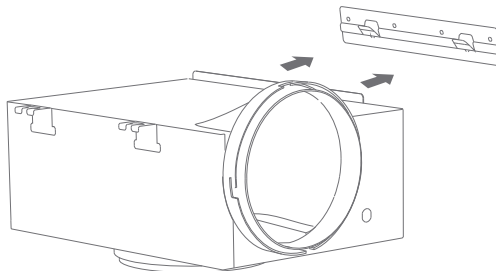

Fig.2
- Hang and snap in the motor on the wall mount standard bucket as shown in Fig. 2.
- Installation of anti-stripping screws: Use 1 ST4 x 8 screw to fix the range hood to the pegboard (As shown in Fig. 2).